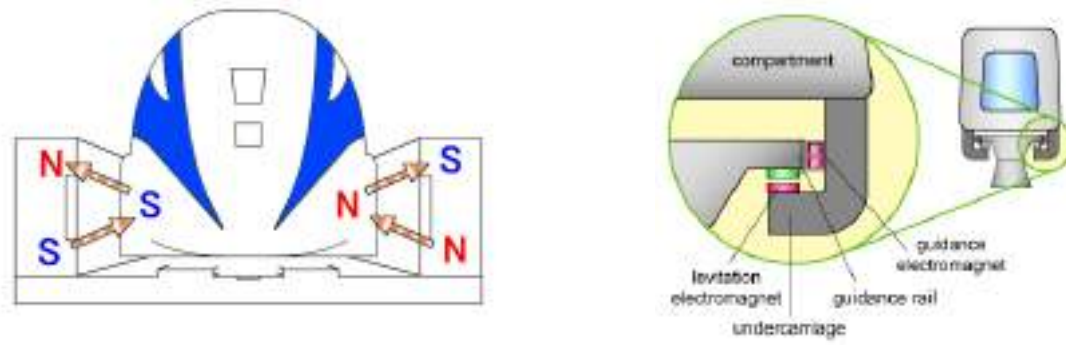

Fig. 15: Levitation electromagnet
- A levitation electromagnet is an electromagnet used to produce a magnetic field that can suspend an object, typically using electromagnetic levitation. For MagLev (Magnetic Levitation) trains, levitation electromagnets are used to generate magnetic forces that counteract gravity, allowing a train to float above a surface without physical contact as shown in Fig. 15.